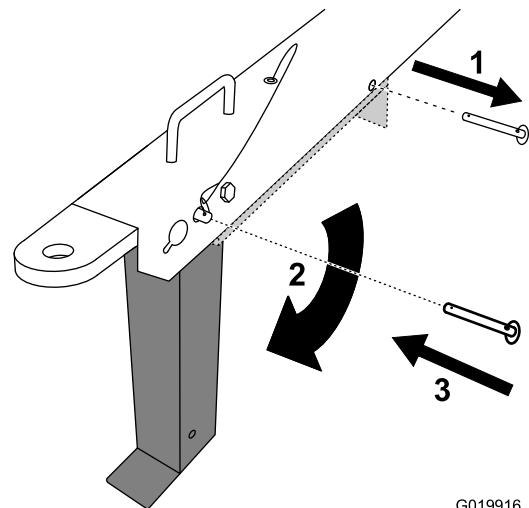

Figure 30
6. Pull the clevis pin out from the front stabilizer leg and the tongue (Figure 30).
7. Rotate the front stabilizer leg down toward the ground (Figure 30).
8. Push the clevis pin through the front hole in the tongue and the front stabilizer leg (Figure 30), and carefully lower the machine to the ground.